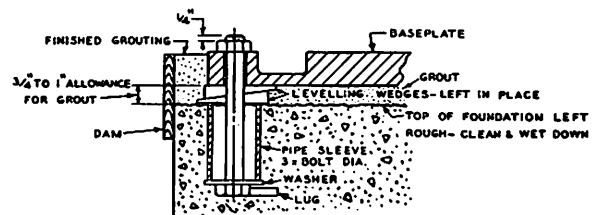

Fig. 1
A template should be made to position and hold the foundation bolts in place while pouring the concrete. Location and sizes of bolt holes are shown on the certified outline drawing supplied to the purchaser. Each bolt is installed in a pipe sleeve, the inside diameter of which should be three times the outside diameter of the bolt. The pipe sleeve allows for minor adjustments in bolt spacing after foundation is in place (Fig. 1). Two methods commonly used to secure and prevent bolts from turning are:
- a) A washer is placed between the bolt head and pipe sleeve with a lug welded to the bolt head (Fig. 1).
Stuff waste between foundation bolts and sleeves to prevent concrete from entering while foundation is being poured. Foundation bolts must be long enough to allow from $\frac{3}{4}$ " to 1" for grouting under the baseplate (Fig. 1). When pump is level the bolts should extend $\frac{1}{4}$ " through the nuts.
Move pump next to foundation. The surface of the foundation should be thoroughly cleaned and roughed. Set leveling wedges (Fig. 1) adjacent to foundation bolts and remove waste from pipe sleeves. Lift pump from skids and clean underside of baseplate. Lower pump over foundation bolts onto wedges. Adjust wedges to allow for $\frac{3}{4}$ " to 1" of grout, being sure pump flanges are plumb. Care must be taken at all times to prevent damage or distortion of the pump.
Build a board dam around the foundation to the desired height for finished grouting (See Fig. 1). A mixture of one part portland cement to two parts clean sand with just enough water to mix to a thick creamy consistency should be made for grout. Wet the underside of the baseplate and foundation top, then pour the grout through the holes in the baseplate. Thoroughly puddle the grout during pouring to prevent air pockets and hollow spots. After grout has set sufficiently, remove the board dam and finish off the grout as desired. When grout has hardened, usually in about 48 hours, pull up on foundation bolts.